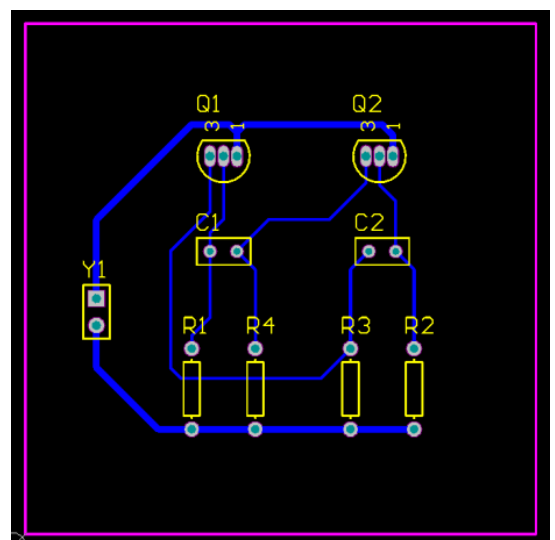

Figure 9. Manually routed board, with tracks placed on the bottom layer.
6. Use either of the above methods to route between the other components on the board. Figure 9 shows a manually routed board.